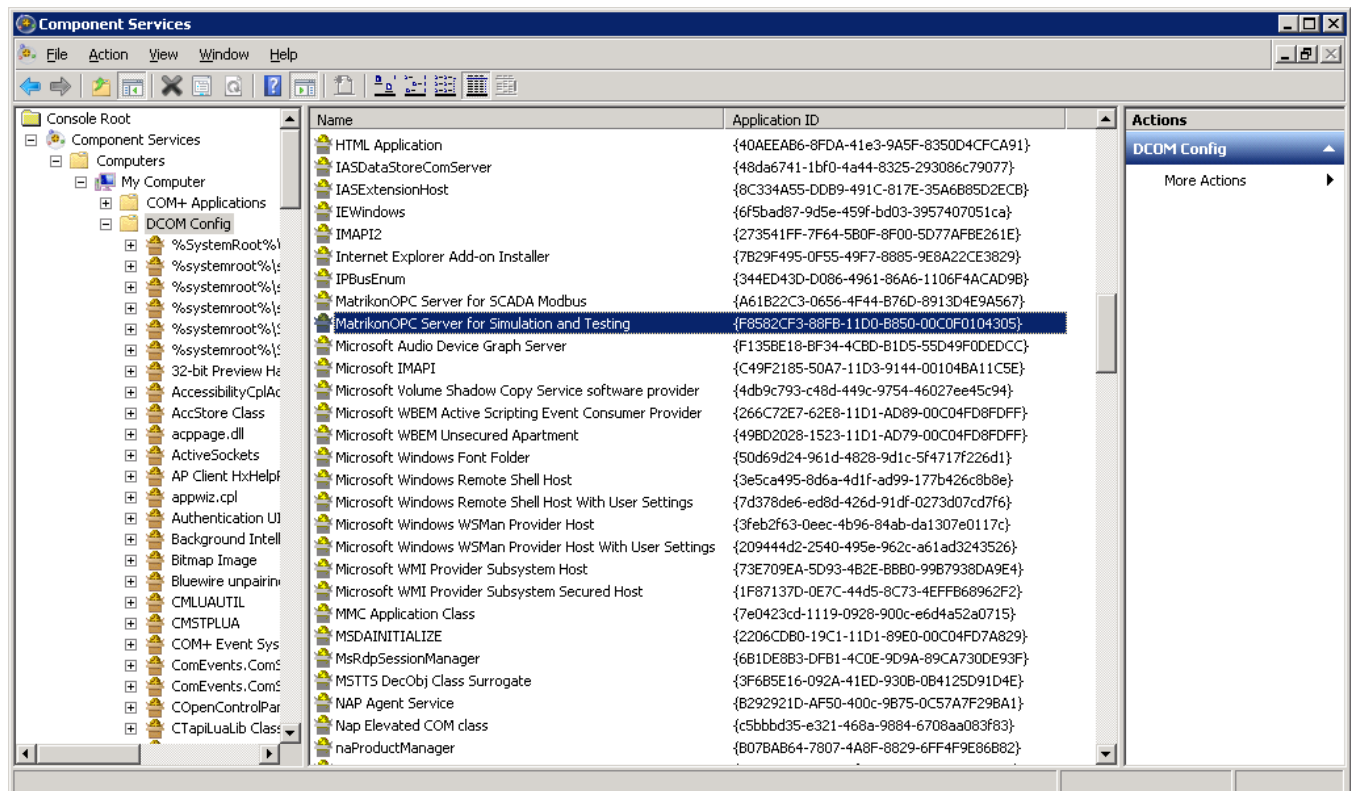

Figure 56 - Distributed COM Configuration Properties Window
3. The **Distributed COM Configuration Properties** window (Figure 56) appears.